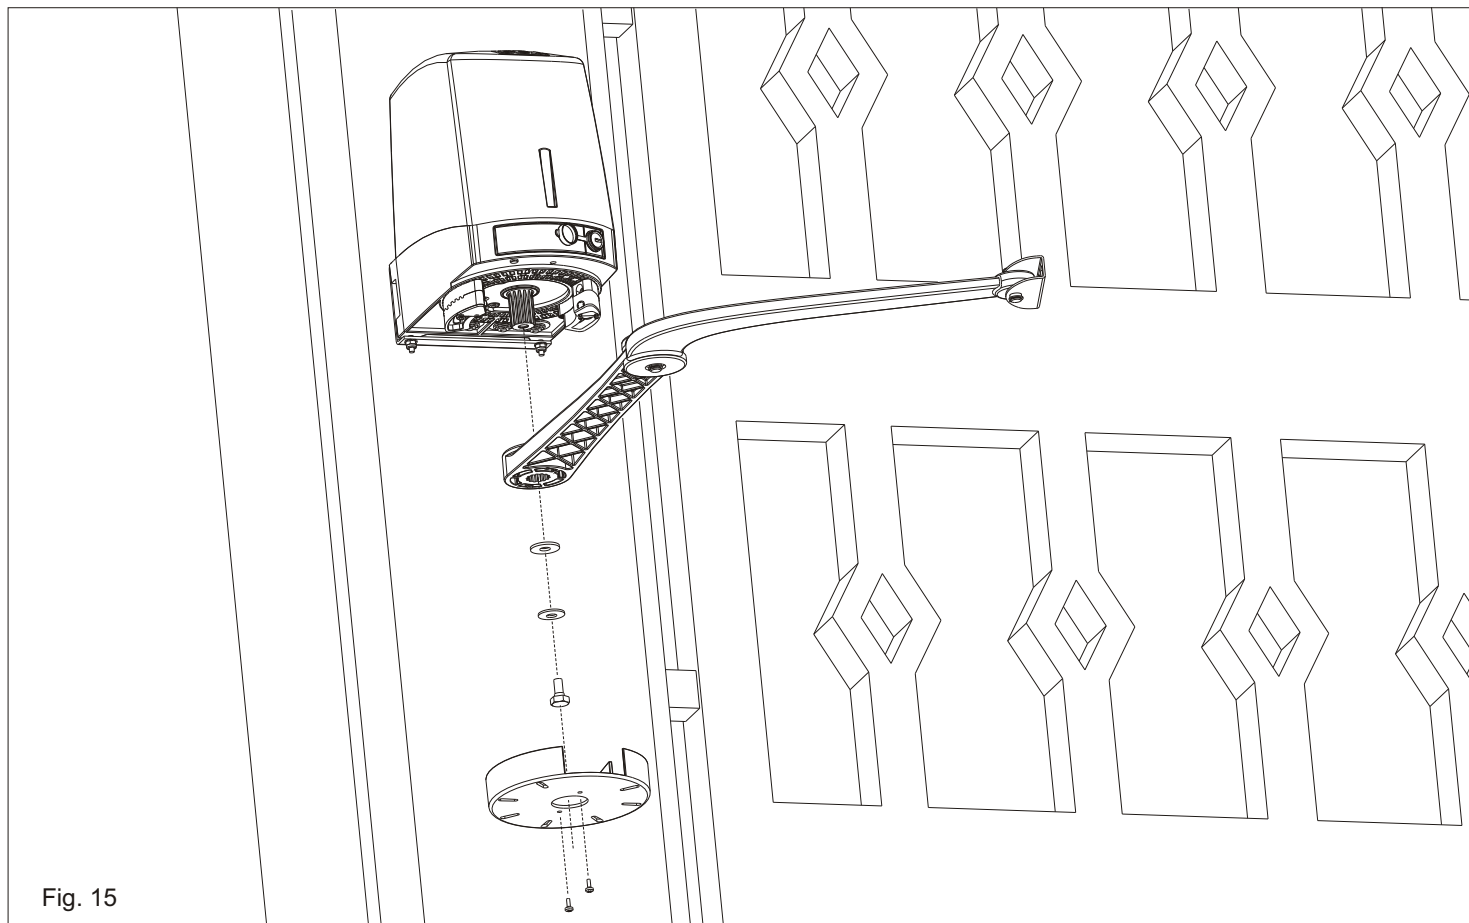

Fig. 15
- Fit the articulated arm into the motor shaft and lock it with the special screws (Fig. 15).